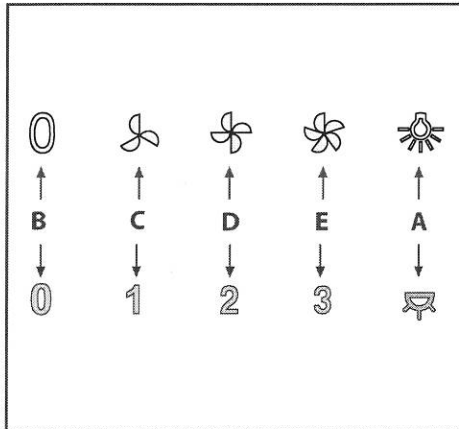

Fig.8
• **Commands (Fig.8) mechanical** the key symbols are explained below: